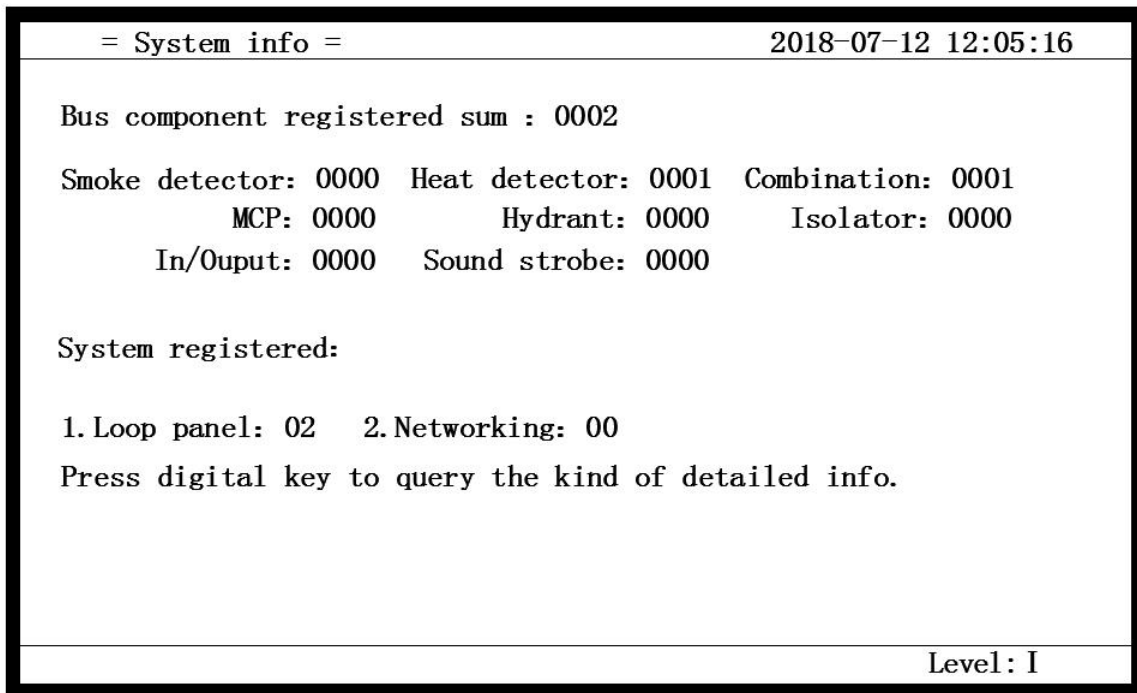
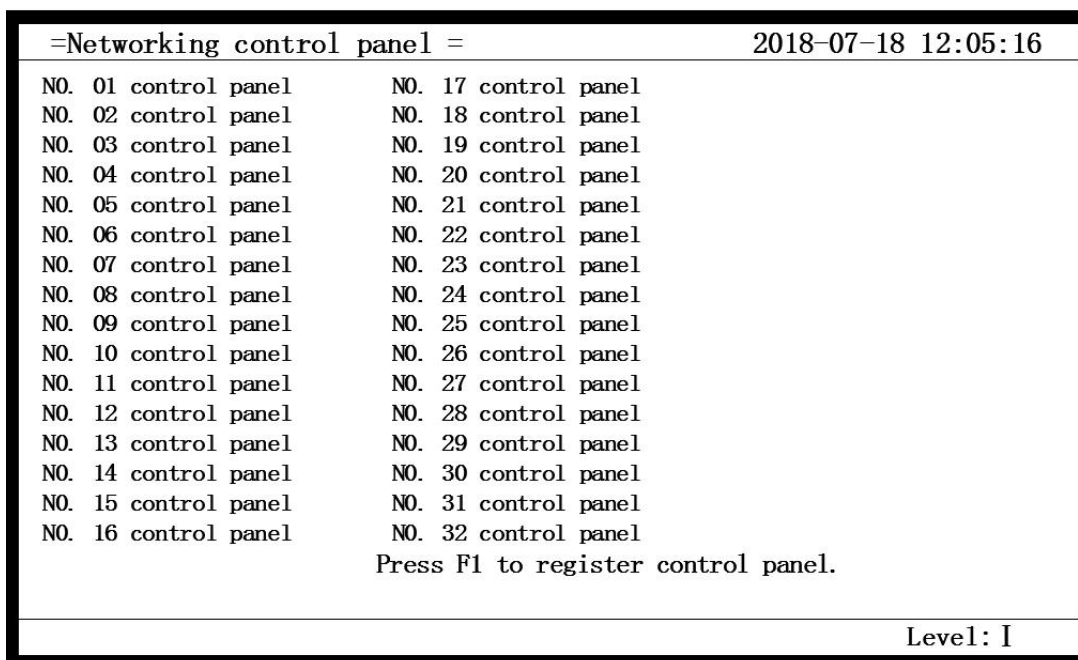

Fig. 5-2
Fig. 5-5
Press the “Menu” button to enter the main menu. Then press the number 1 to enter “1. System Information” (Figure 5-2). This screen displays the type and number of devices registered in the system. For example, the number of registered devices such as smoke detector, heat detector, sounder, input and output module and isolation module, and the information of the networking control panel with the host control panel. The details can be viewed by pressing the number keys "1" or "2".
- ✧ On this page, press the number key 1, the system displays the number of registrations, bus current and reference voltage of the 4 loops (Figure 5-2).
In the page shown in Figure 5-2, press the number key “2” to display the display networking information with the control panel, which is convenient for the user to view. This operation is a level I operation. As shown in Figure 5-5.